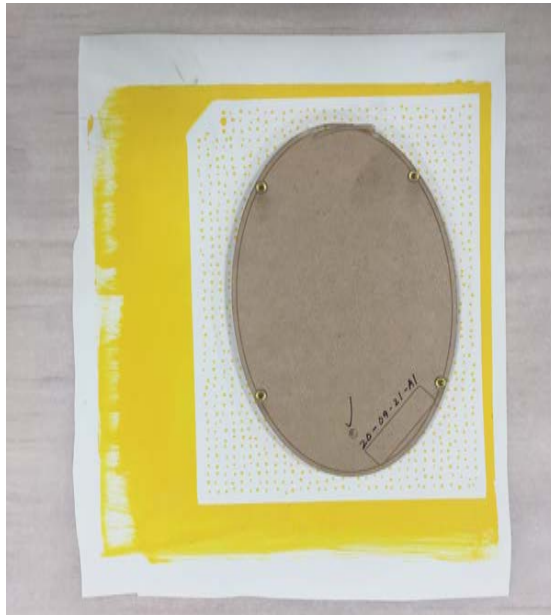

Figure 48: Adhering of the acrylic window to the latex after removing the interior paper
9. Quickly remove the rest of the interior paper using a spudger to peel off the edge, then immediately place the glued surface face down on the matte/patterned side of the latex (Fig 48).